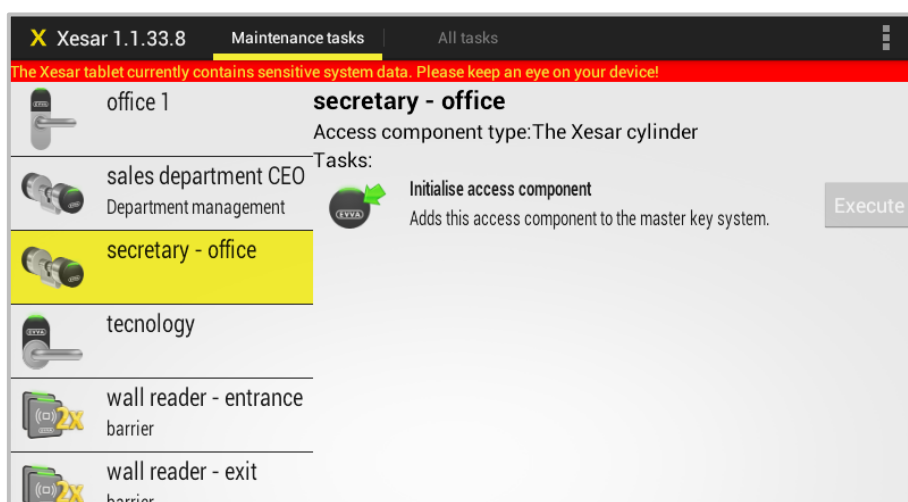

Figure 132: Xesar tablet — initialising Xesar access components
- Select the correct Xesar access component and the desired task you would like to run (Figure 132: Xesar tablet — initialising Xesar access components) from the maintenance task list on the Xesar tablet.